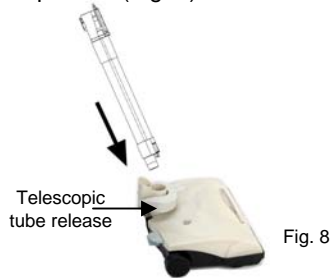

Fig. 8
1. To attach the power nozzle to the telescopic tube, insert the telescopic tube plug into the power nozzle receptacle. (Fig. 8)